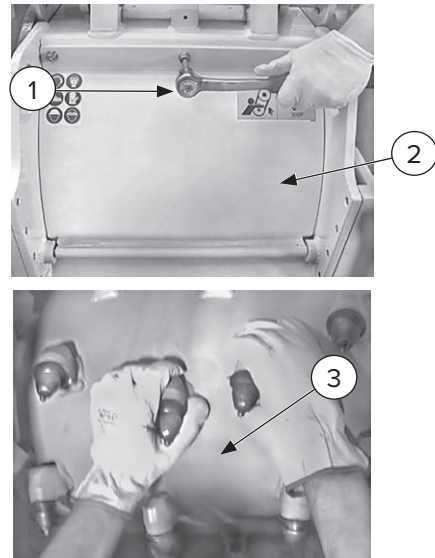

Figure 16
2. Remove the screws [Figure 16, Item 1], and open the guard [Item 2].